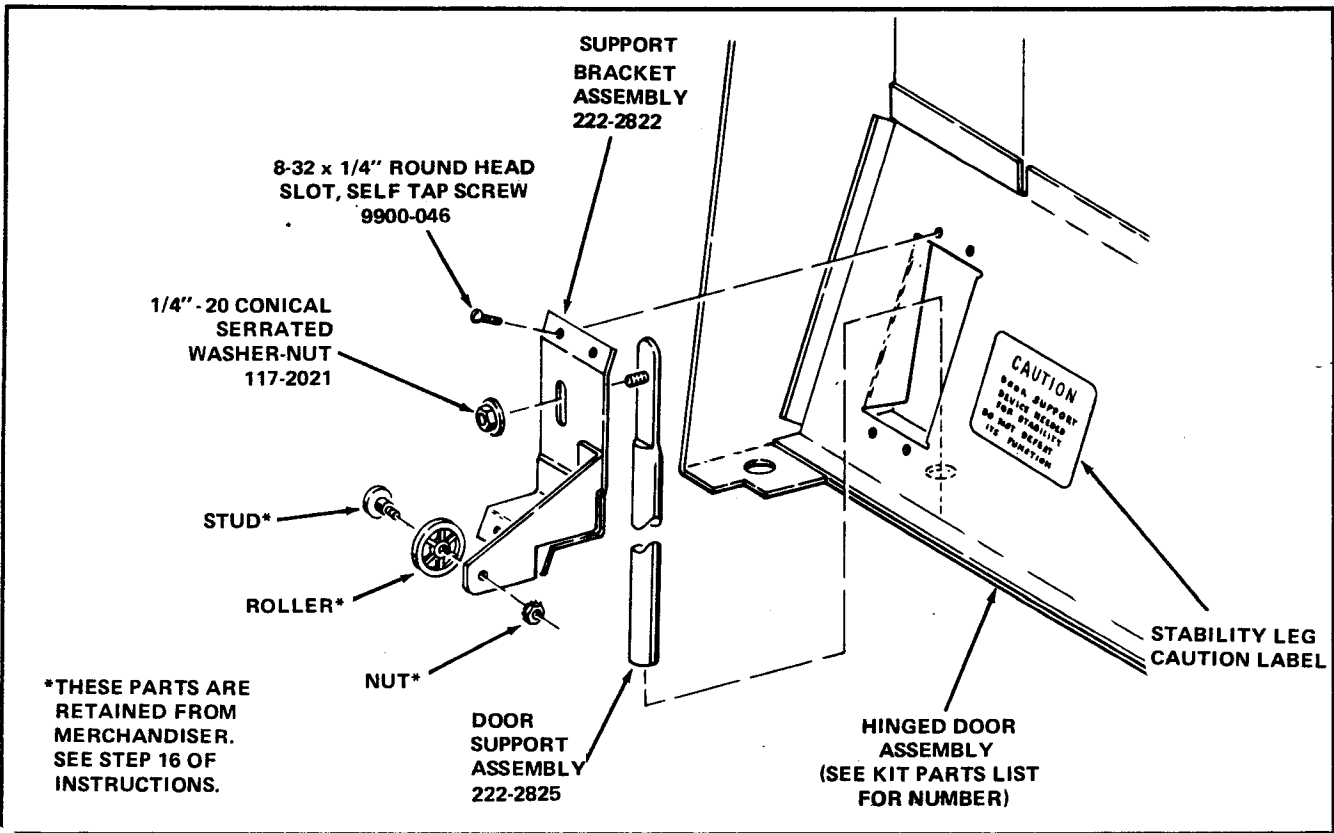

FIGURE 1
4. Insert the rod end of the Door Support Assembly, Kit Part Number 222-2825, through the cutout in the Door and into the knockout provided in the bottom of the Door. The cutout is in the approximate area formerly occupied by the Door Holder Bracket. See Figure 1.
7. Place the Door Holder Roller removed in Step A-7 on the left side of the Door Support Bracket and secure with the Special Screw and self locking Nut removed in Step A-6. See Figure 1.
8. Affix Stability Leg Caution Label, Kit Part Number 222-2699, to the right of the Door Support Bracket. See Figure 1.
2. Loosen the 1/4-20 Conical Serrated-Washer Nut that secures the Door Support. See Figure 1.